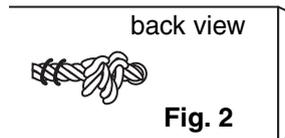

Fig. 2
6. Use the anchor as a drill guide and drill a ⅜" hole completely through the Climbing Wall. Attach Climbing Wall to anchor with one ⅜" x 1¼" hex bolt, two ⅜" washers and one ⅜" lock nut provided in the anchor kit. **(Fig. 2)**
4. Secure both ends with staples provided (2 each end). **(Fig. 2)**